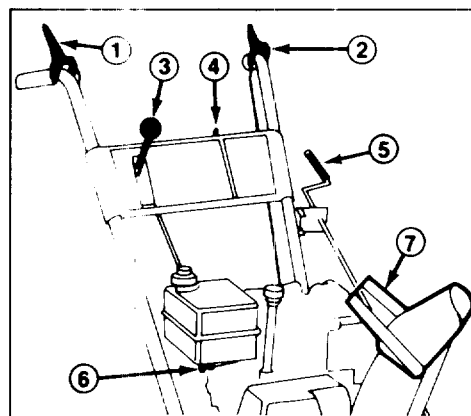
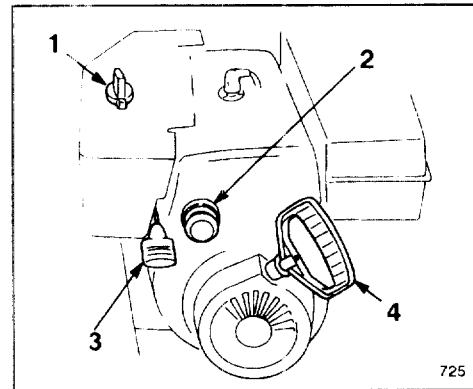
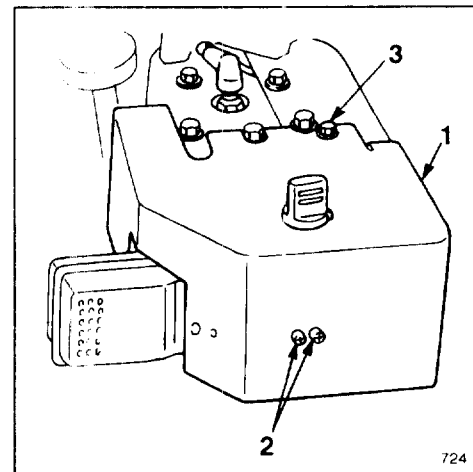

Figure 14
Figure 15
Figure 16
Auger Drive Control (Fig. 14)—Control has two positions: ENGAGE and DISENGAGE. To engage both auger and impeller, compress lever against right handgrip. To disengage, release lever.
Traction Control (Fig. 14)—To engage traction (wheel drive), lever must be compressed against left handgrip. To stop traction, release lever.
Speed Selector (Fig. 14)—The control has four positions: reverse, 1, 2 and 3. To change speeds, move gear shift to position desired. Lever will lock in notch at each speed selection. Use positions 1, 2 or 3 depending on snow conditions.
Ignition Switch (Fig. 14)—Switch has two positions: ON and OFF. Rotate key to ON position before starting engine with the recoil starter. To stop engine, rotate key to OFF.
Throttle (Fig. 15)—Moving the throttle upward increases engine speed.
Choke (Fig. 15)—Rotate choke to FULL choke position to start a cold engine. As engine warms up, move choke gradually to OFF.
Primer (Fig. 15)—Press primer to pump a small amount of gasoline into engine for improved cold weather starting.
Fuel Shut-Off Valve (Fig. 14)—Valve is located under fuel tank. Close valve by rotating it to the right to stop fuel flow from fuel tank. Open valve by rotating it to the left to allow fuel to flow to the carburetor. Close valve when snowthrower is not in use.
Discharge Chute Control (Fig. 14)—Rotate discharge chute control clockwise to move discharge chute
Recoil Starter (Fig. 15)—Recoil starter is on back side of engine. Pull recoil starter to start engine.
Chute Deflector Handle (Fig. 14)—Deflector handle is on top of discharge chute, and it is used to control height of the snow stream.
Note: If engine is operated when temperature is +40° F (4° C) or higher, remove carburetor heater box (Fig. 16). However, the heater box must be reinstalled when temperature falls below +40° F (4° C). To remove heater box:
A. Remove (2) phillips screws and (1) hex head screw securing heater box in place (Fig. 16). Pull choke knob off choke rod (Fig. 15).
1. Move throttle (Fig. 15) to FAST.
2. Open fuel shut-off valve below fuel tank (Fig. 14) by rotating valve to the left.
3. Rotate choke (Fig. 15) to full choke position.
4. Rotate ignition key (Fig. 14) to ON.
6. Grasp recoil starter handle (Fig. 15) and pull it out slowly until positive engagement results; then pull vigorously to start the engine. Keep firm grip on starter handle and return the rope slowly.
7. After engine starts, immediately rotate choke (Fig. 15) to 3/4 position. As engine warms up, rotate choke to 1/2 position; then to OFF position. If engine falters, return choke to 1/2 position. When engine warms sufficiently, rotate choke to OFF position.
1. Release traction and auger drive controls (Fig. 14).
2. Move throttle (Fig. 15) to slow and rotate ignition key (Fig. 14) to OFF.